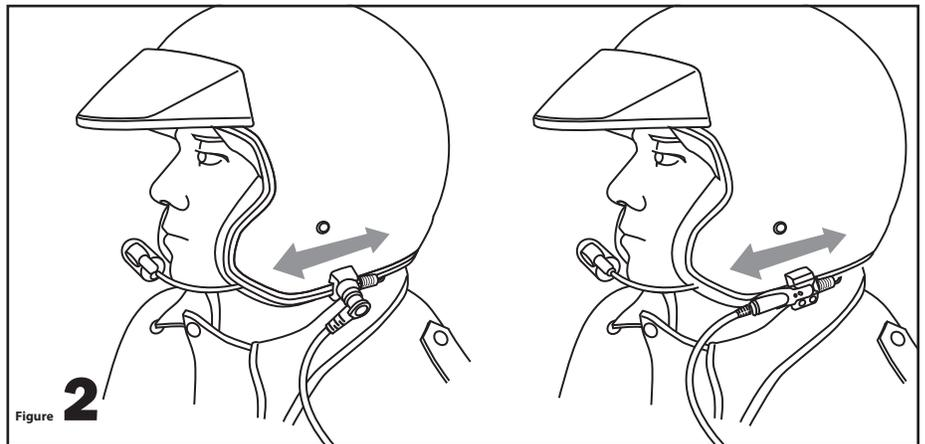
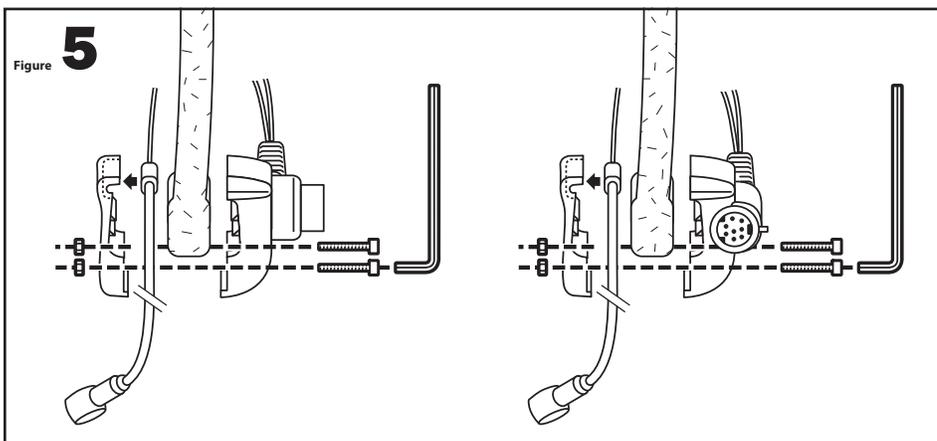

Figure 2
Figure 5
3. Position the boom microphone clamp assembly on the left side of the helmet so that the microphone lines up with the wearer's mouth & mark this position. **See Figure 2.** Tighten the clamp to the helmet with the rubber friction spacer in place & plug-in the microphone to the corresponding plug from the clamp. **See Figure 5.**